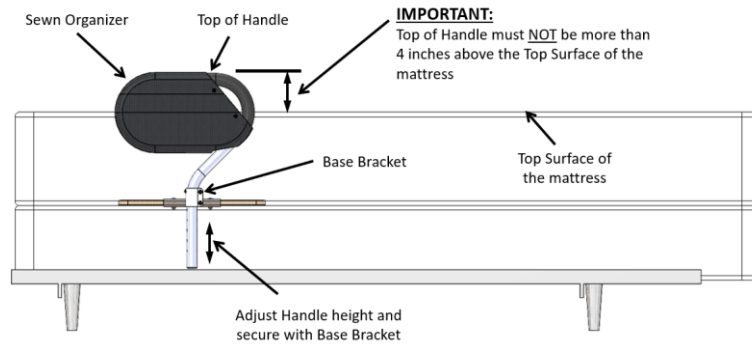

FIGURE 3
3. The “top of the Handle” must be installed at a position of 4 inches above the top of the Mattress as shown in Figure 3.